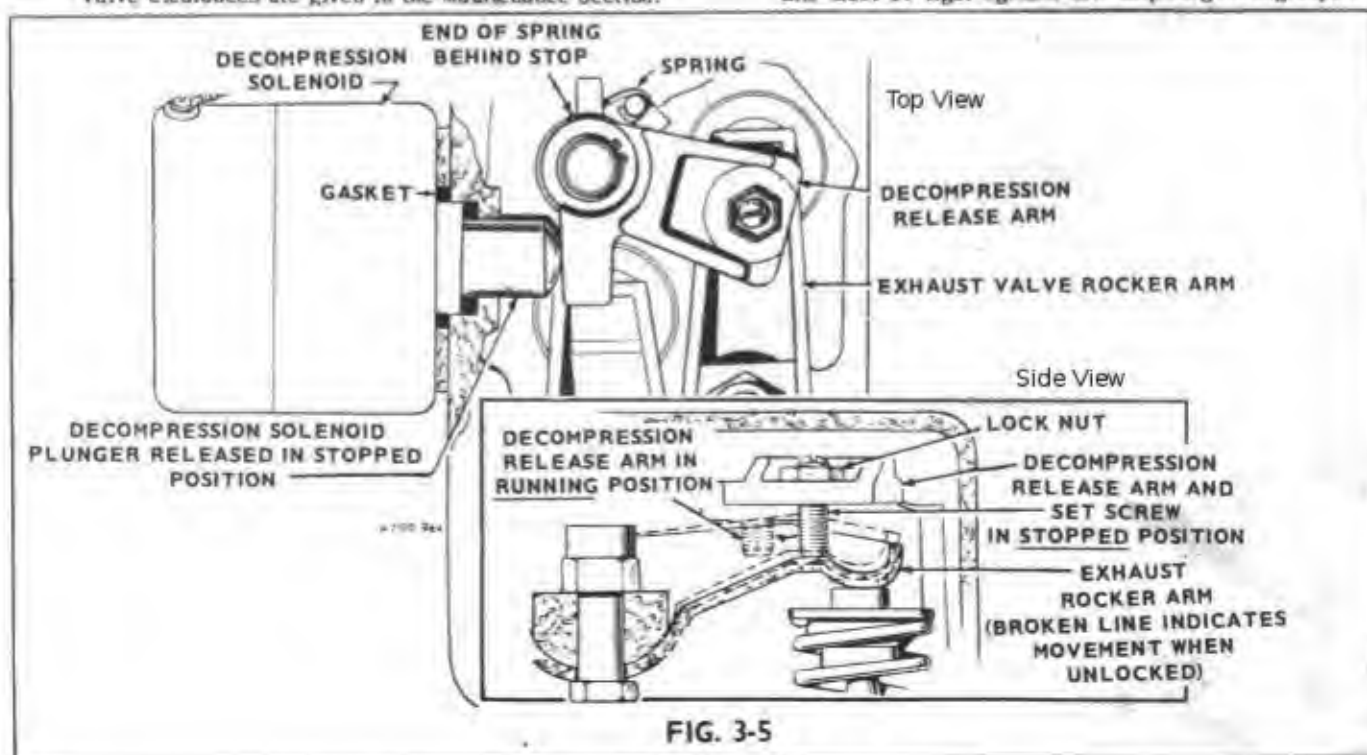

FIG. 3-5
1. With the piston 10° to 45° past TDC on the power stroke, hold the arm in the decompression position (tension against spring). Turn the set screw so it just touches the exhaust rocker arm (Fig. 3-5). The release arm must be tight against the snap ring during adjust-